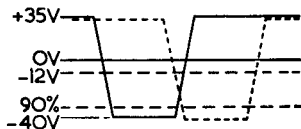
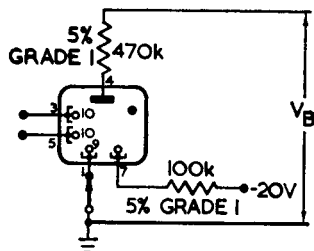
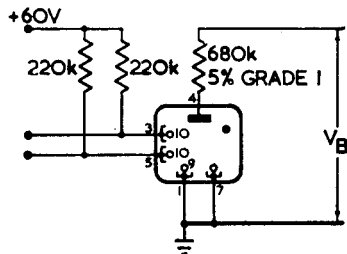

Fig. 1
Fig. 2
Fig. 4
- The tube shall scale without error the first applications of test signals (illustrated in Fig. 1). Test signals are to be applied for at least 1/10th second. The test circuit of Fig. 2 is applicable.
- The tubes selected for this test are to be run in the circuit shown in Fig. 4. One application of the pulses shown in Fig. 1 is to be made every  $85 \pm 5$  hours. The tube is to receive 20 such pulses and then be removed. A tube which fails to step on the application of the test pulses shall be rejected. The normal guide bias is to be +60 V which will be reduced to +35 V immediately prior to the application of pulses.